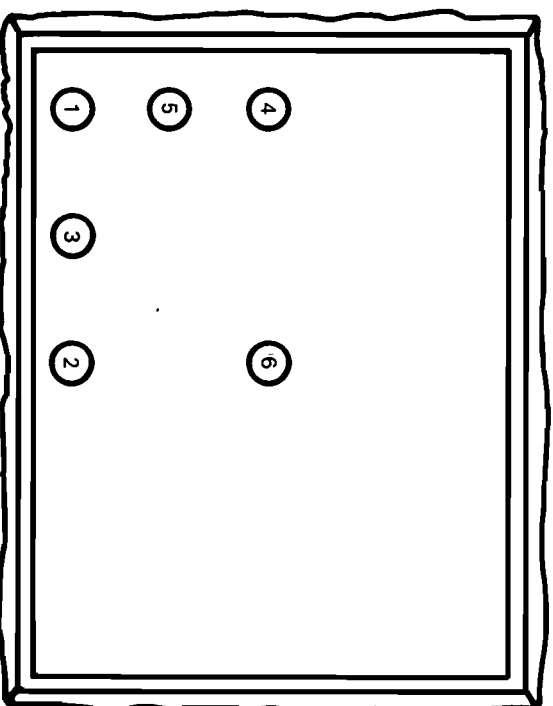

Figure 5-18. Beam Locations for Focus and Astigmatism Procedure
- f. Disconnect pulse generator No. 1 and position beam to location No. 1 on screen (see figure 5-18).